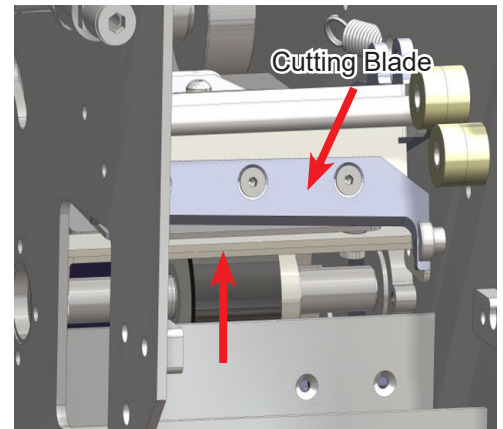

Figure 62: Clean Striker Plate
4. Clean the Striker Plate using damp cloth and a mild detergent (refer to Figure 62).
The cutter blade must rise when tape is being processed to allow the tape to proceed underneath. The blade must therefore raise and return without restriction (refer to Figure 62). Should the blade not raise and return when tape is processed, do the following: